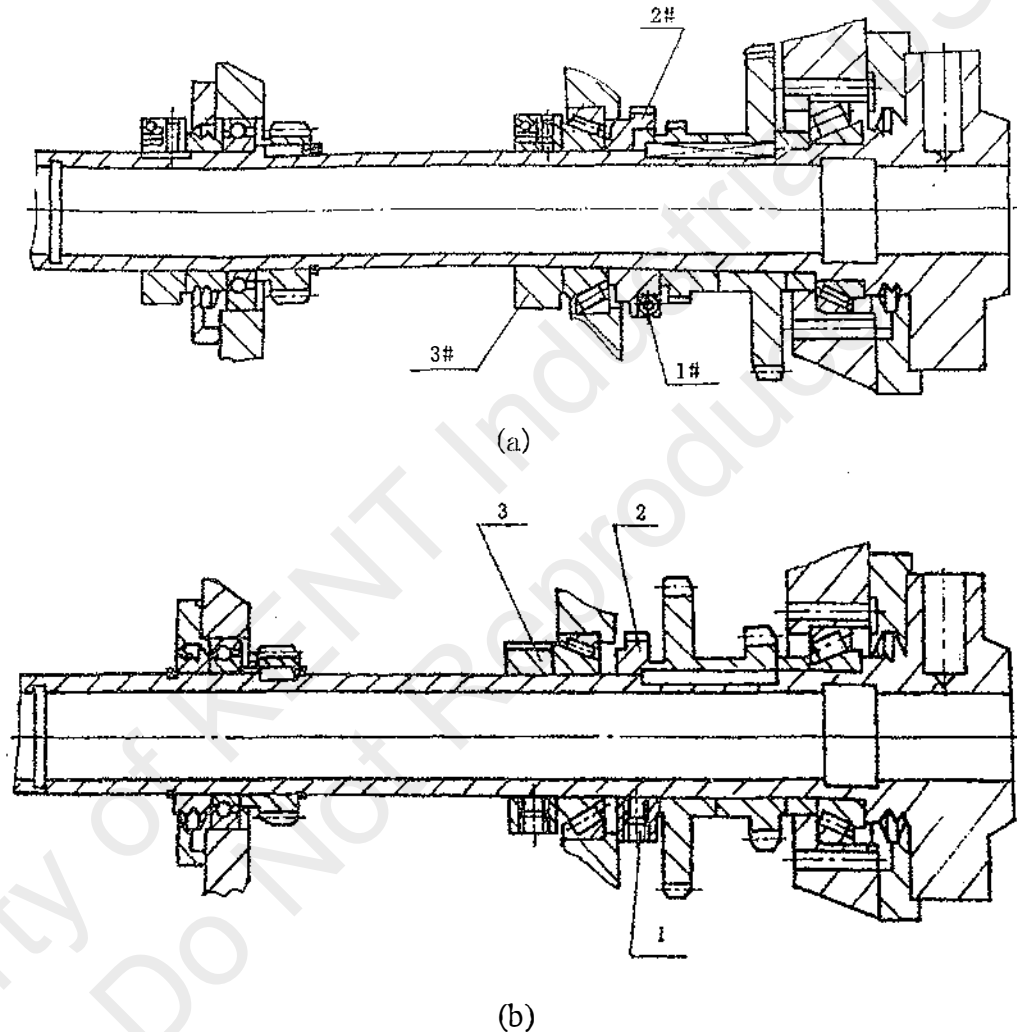

Fig.6 Spindle Adjustment Diagram
Spindle bearing adjustment (refer to Fig. 6)
- (1) Remove the headstock cover.
- (2) Position “High/Low” gear shift lever to “NEUTRAL”(spindle stops rotating).
- (3) Loosen “gear positioning nut”(2# in Fig.6) at least one full turn. Requires first loosening the locking screw on castellated nut so that nut can turn.
- (4) Tighten “bearing adjustment screw” 3# or nut No.3 by using spanner wrench. Don’t over tighten ! Spindle should be snug but free to rotate by hand. The maximum end float should not exceed $0.0002''/0.0003''$.
- (5) Retighten “locking nut”, and tighten “locking screw”.
- (6) Tighten “gear positioning nut” to prevent endwise float of spindle gears. When this nut is fully tightened, find the locking screw (1#) on the castellated nut and tighten it to prevent the nut from working loose.
- (7) Replace the headstock cover and re-check spindle rotation by hand.
- (8) Place “High/Low” gear shift lever in “Low” position. Check spindle rotation by using the jog button. If all same good, select a low to medium speed, turn the machine on and allow the spindle to run in a “no load” condition for 20-30 minutes. Check the spindle nose bearing temperature with your hand. If there is a significant heat building up,